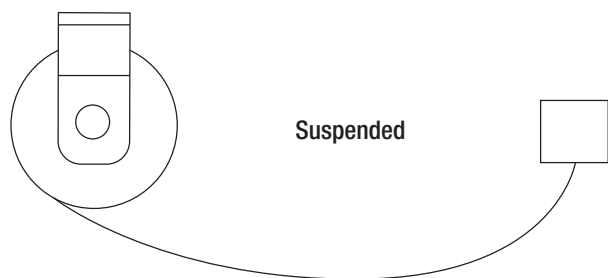

Figure 3-1
3.0.1.1 The cable is suspended without any intermediate support. Stretch reels generally require a line pull equal to two times the weight of the cable, which allows approximately 10% sag at full extension. On long applications where sag cannot be tolerated, it is sometimes desirable to put supports at intervals of 5 to 10 feet. **See Figure 3-1**